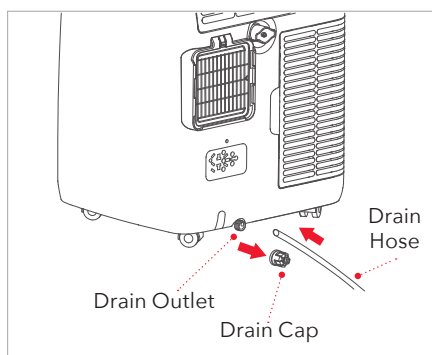

Fig. 19
### CONTINUOUS DRAINING (► FIG. 19)
3. Connect the Drain Hose (½" or 12.7 mm, may not be supplied) (► Fig. 19).